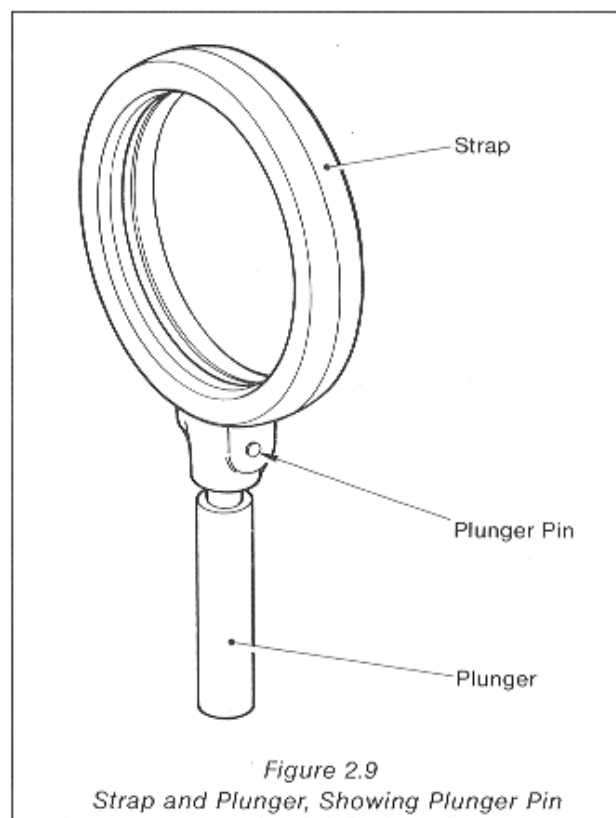

Figure 2.9
- (4) Fit a new plunger pin (Figure 2.9) and check the plunger internal valve seats for wear.